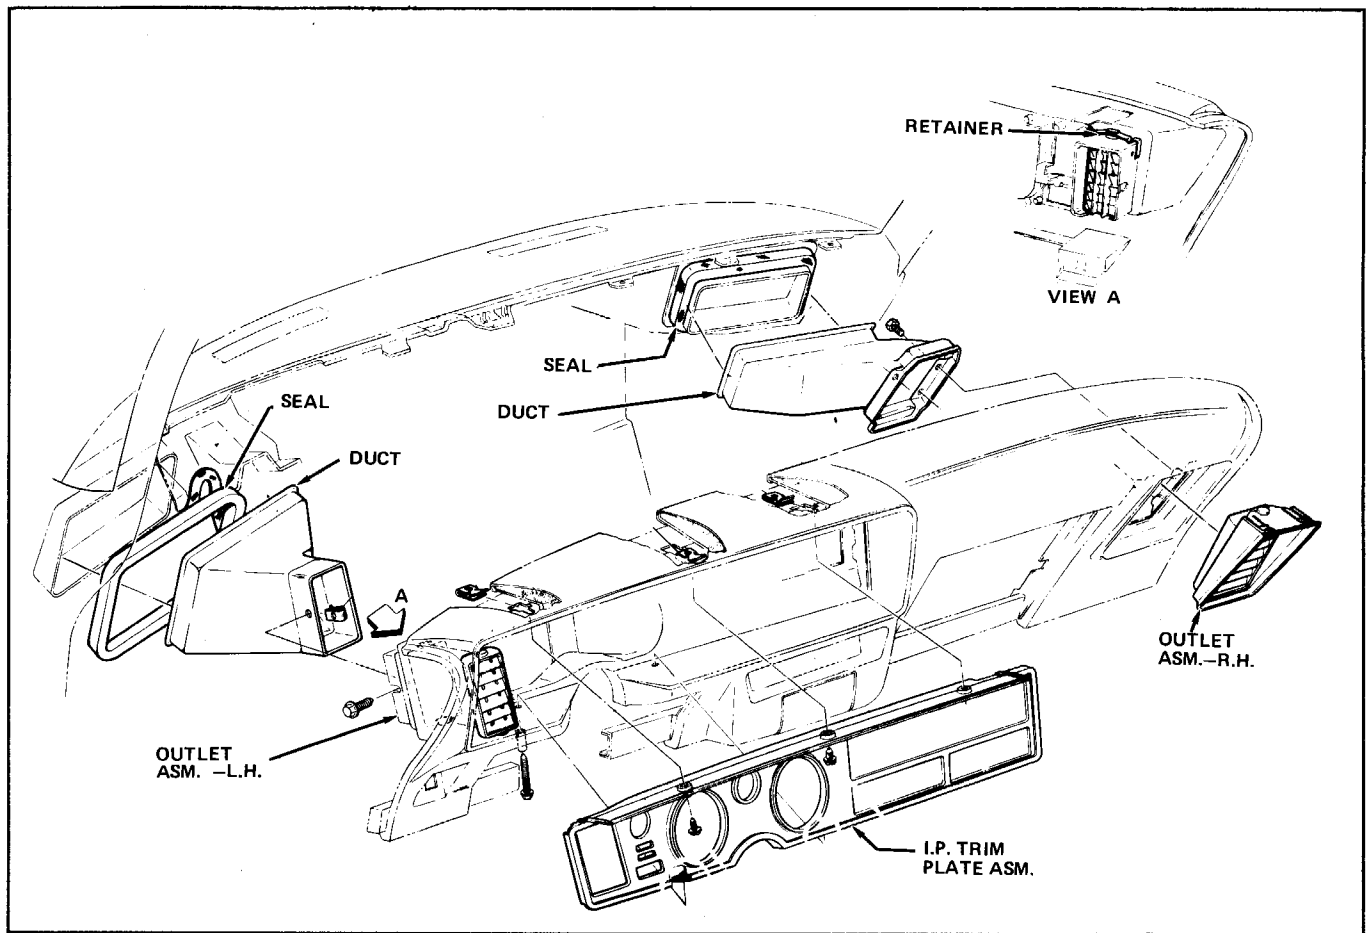

Fig. 1-35 F Series Upper Ventilation Ducts and Outlets
3. Remove right hand upper vent nozzle, adapter and duct (Fig. 1-35).
4. Remove (5) vent door mount screws and remove door assembly.
2. Remove left hand upper vent duct screw and remove duct (Fig. 1-35).
3. Remove (5) door assembly mounting screws and remove door assembly.